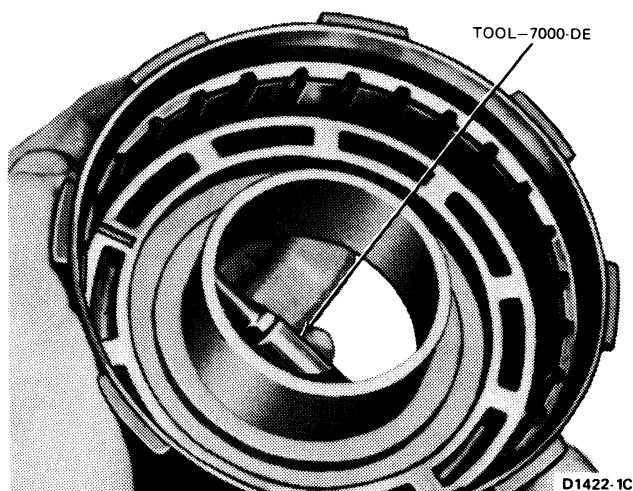

FIG. 39 Removing Reverse-High Clutch Piston
- Apply air pressure to the piston apply hole in the clutch hub (Fig. 39) and remove the piston.